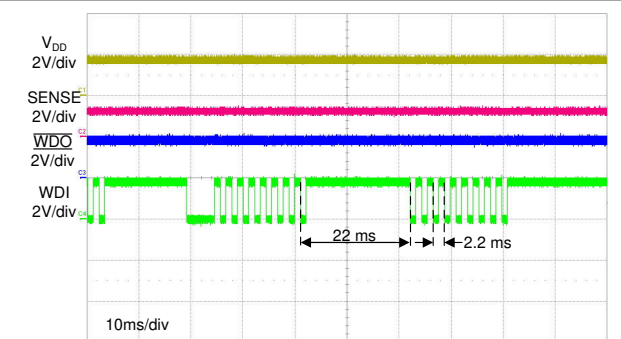

Figure 8-10. Window Watchdog Timing
In this application, the window watchdog timing options are based on the PWM signal that is provided to the TPS3850. A window watchdog setting must be chosen such that the falling edge of the PWM signal always falls within the window. A nominal window must be designed with $t_{WDL(max)}$ less than 5 ms and $t_{WDU(min)}$ greater than 5 ms. There are several options that satisfy this window option. An external capacitor can be placed on the CWD pin and calculated to have a sufficient window. Another option is to use one of the factory-programmed timing options. An additional advantage of choosing one of the factory-programmed options is the ability to reduce the number of components required, thus reducing overall BOM cost. Leaving the CWD pin unconnected (NC) with $SET0 = 0$ and $SET1 = 1$ produces a $t_{WDL(max)}$ of 2.22 ms and a $t_{WDU(min)}$ of 23.375 ms; see Figure 8-10.